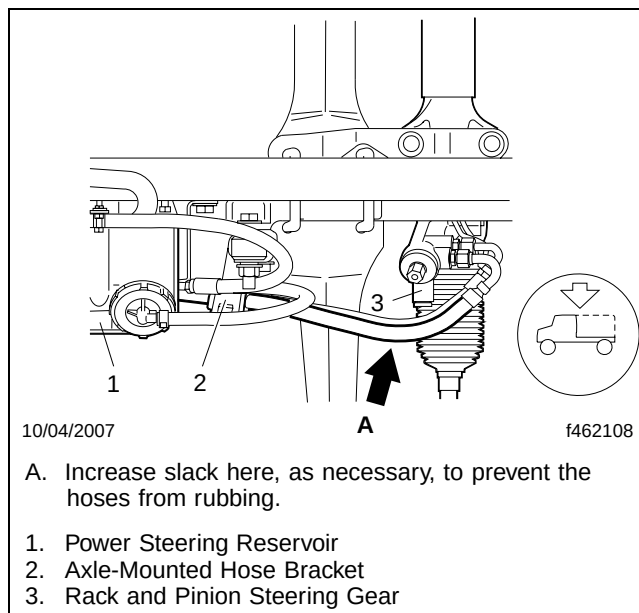
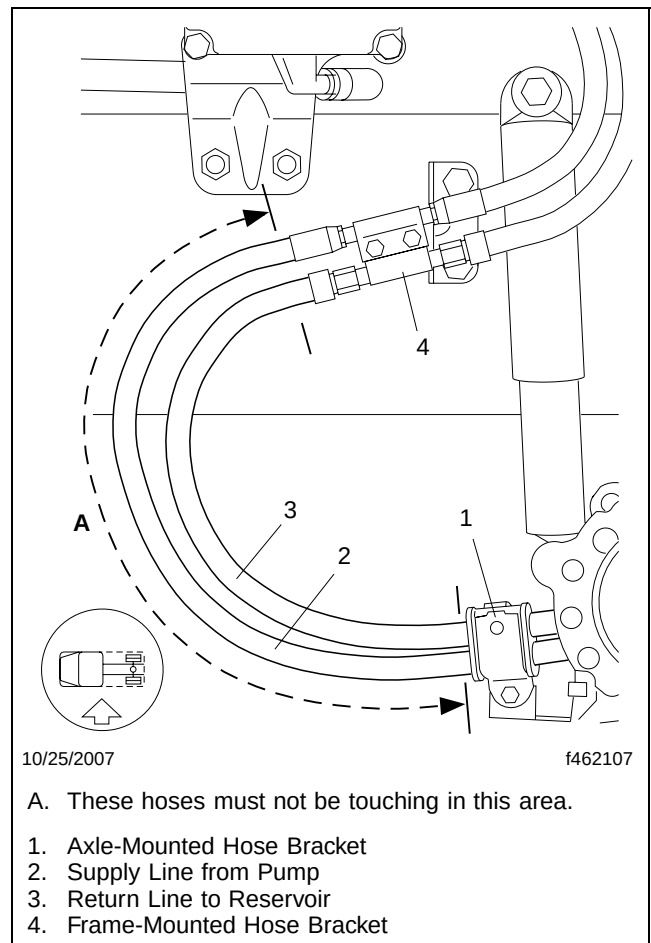

Fig. 11, View from Above
Fig. 12, Side View (fuel/water separator installed forward)
48. Include a little slack in the return line between the steering rack and the axle-mounted hose bracket (**Fig. 11**), to keep the hoses between the axle-mounted hose bracket and the frame bracket (**Fig. 12**) from rubbing together.